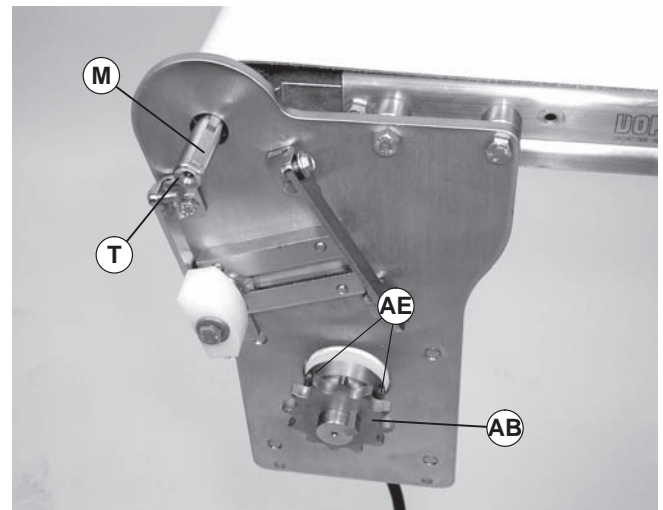
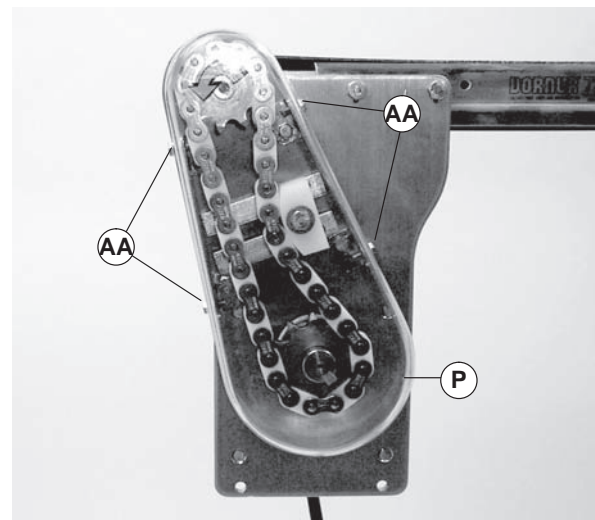

Figure 11
Figure 15
Figure 11 through Figure 15 show timing chain installation on a 7200 Series conveyor. Installation on a 7300 Series conveyor is similar.
4. Install key (Figure 11, item M) on drive spindle (AE).
Depending on sprocket sizes, it may be necessary to remove drive sprocket (Figure 11, item AB) by loosen two set screws (AE) to install chain and sprockets.
Do not over-tighten screws (Figure 15, item AA).
8. Install cover (Figure 15, item P) and tighten four screws (AA) to 35 in-lb (4 Nm).